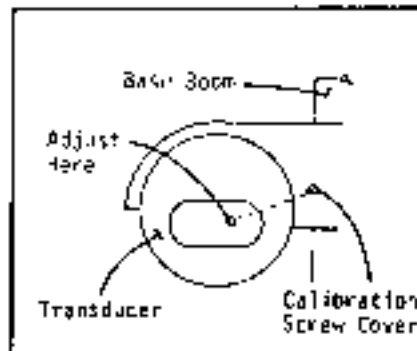

Fig. 3-25
- (c) Turn meter power switch "on". Turn jib/main switch to "main" position. Retract boom fully. Remove calibration screw cover located on the outside surface of transducer. (See Figure 3-25.)